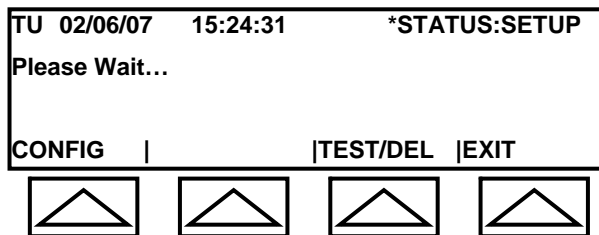
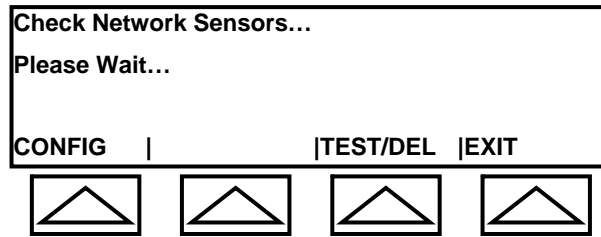

Fig. 4-9a: Config. – Searching Sensors
Fig. 4-9b: Config. – Searching Sensors
1. The system will search for system sensors. While searching, the LCD display will alternate between Figure 4-9a and Figure 4-9b.